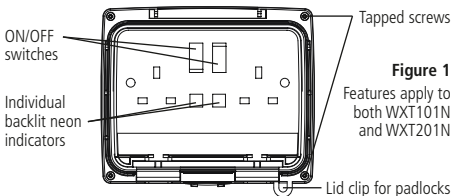

Figure 1
2. Using a Philips screwdriver, separate the faceplate from the back box by removing the four tapped screws located in each corner. See figure 1 & 2 for your chosen product.